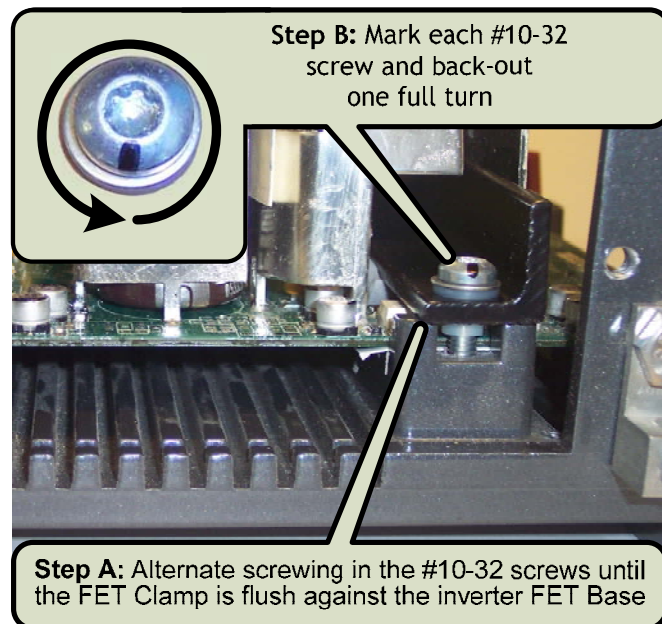

Figure 6, FET Clamp to inverter FET base tension
3.2.6 Alternate tightening these four #10-32 screws until each screw is tight and the FET clamp is flush against the inverter base. Mark each screw for reference and back out the screw one full turn to provide the correct tension to the FET's. See figure 6 for reference.